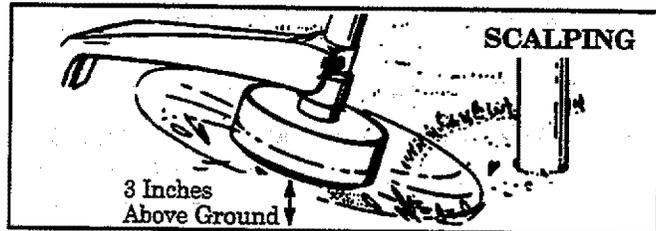

Figure 13
2. **SCALPING** - FIGURE 13 . The scalping technique removes unwanted vegetation. Hold the bottom of the trimmer head about 3 inches above the ground and at an angle. Allow the tip of the line to strike the ground around trees, posts, monuments, etc. *This technique increases line wear.*